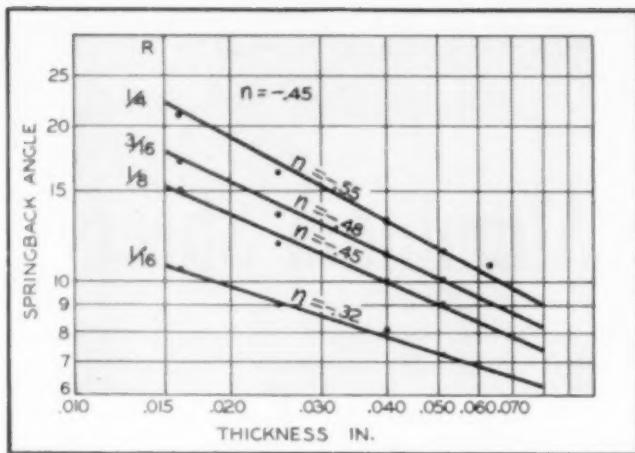

Fig. 2. Springback versus thickness for 24ST.
Fig. 2 illustrates the effect on tool life as cutting feed is varied.
4. Using this speed and the previously selected depth of cut, only three feed tests need be made, one at the original test feed, one about 0.005 in. higher, and one about 0.005 in. lower. If these tests are placed on a graph such as Fig. 2 and the points fall on a reasonable straight line, the originally selected speed is satisfactory. If this is not so, sufficient tests must be made to determine the straight line portion of the feed curve and the preliminary speed test repeated, using the new value of cutting speed.
To aid in determining exponents n , m , n' and m' , the values of springback have been plotted as shown in Figs. 2, 3, 4 and 5; firstly against thickness with the block radius as the constant, and secondly against the block radii with the thickness as a constant. The slopes denoted by n , m , n' , and m' can be averaged as -0.45 , 0.40 , -0.73 and 0.73 respectively.